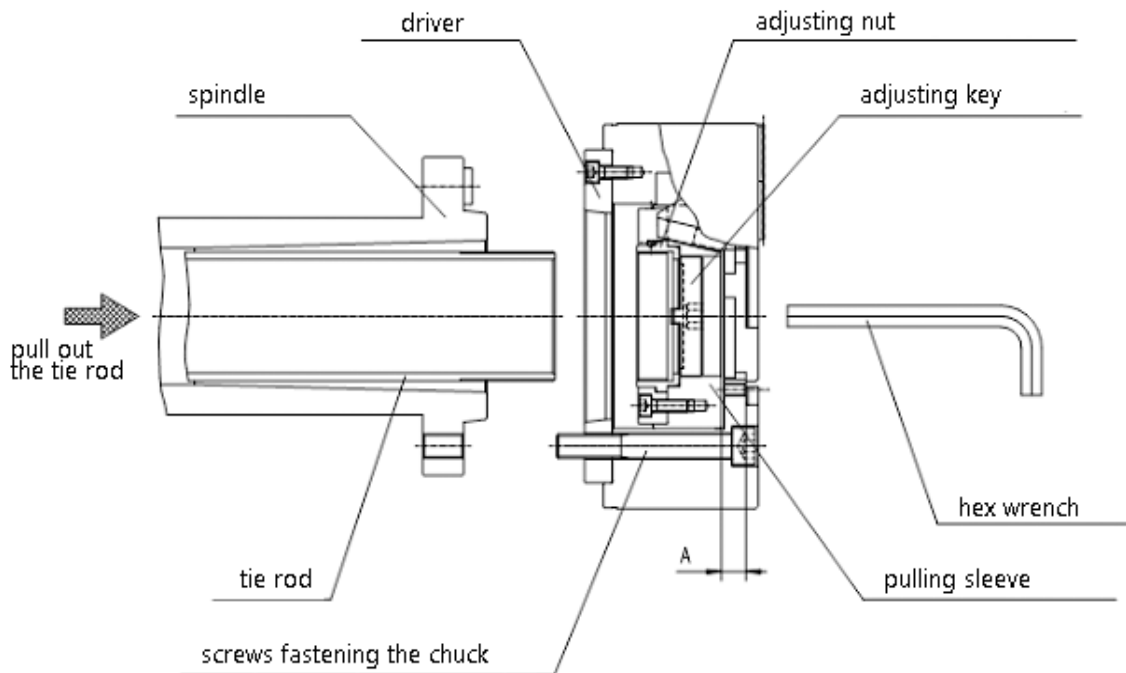

Fig. 11 Chuck mounting
(3) Connect the chuck to the tie rod.
- Remove the upper jaws and the cover to allow the setting wrench to be engaged into the passage hole of the chuck. Fasten the chuck to the tie rod by screwing in the adjusting nut (fig. 11).
The position of the traction sleeve is determined by turning the adjusting nut with the setting wrench (see Fig. 11) - in the correct position of the traction sleeve with the front of the cylinder piston protruding max. forward, the dimension "A" from the surface of the front cover (see Fig. 11) should be equal to the value given in Table 7.